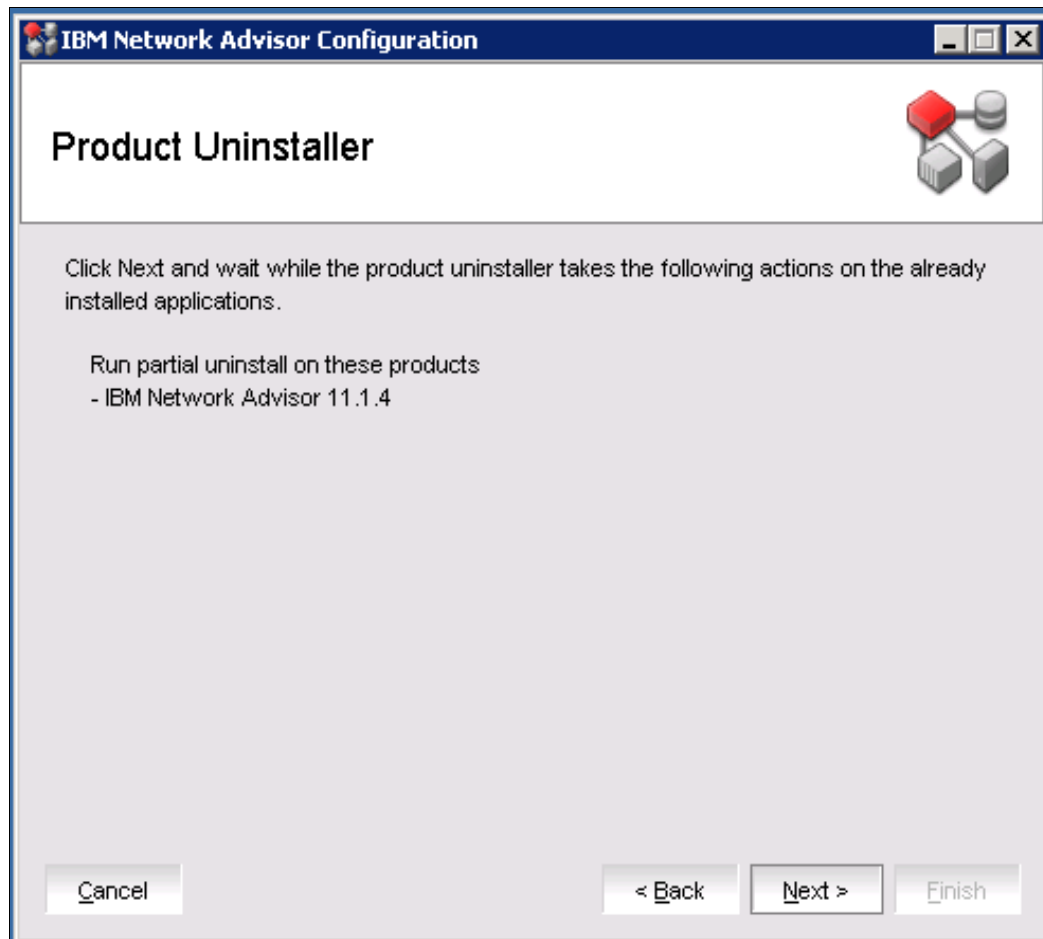

Figure 3-25 Partial Uninstallation window
10. The Product Uninstaller window opens and prompts you to partially uninstall the previous version, as shown in Figure 3-25. Select **Next** to proceed with partial uninstallation of previous version.